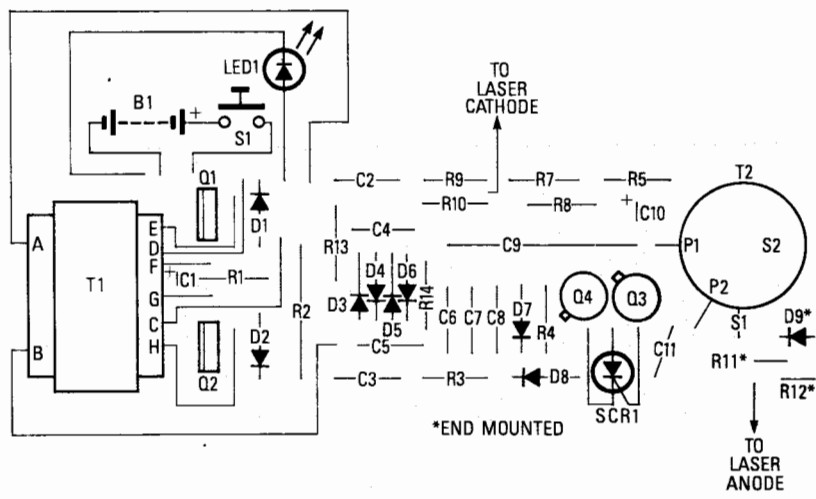

FIG. 5—IF YOU CHOOSE to use the PC board provided in our PC Service section, use this parts-placement diagram.
in materials, simplifying and improving quality control procedures in critical applications. Lasers are also used in industry for non-contact monitoring of a wide variety of systems. See Fig. 5.
**FIG. 5—LASERS HAVE many applications in industry. Here's a device that uses a laser to monitor the performance of an ultrasonic wire bonder, which is used in electronics production.**
cuit that require special attention are the switching transistors, Q1 and Q2. The maximum current draw from the batteries is about 750 mA, so those transistors will be handling a lot of juice and getting hot. The PC-board layout shown in Fig. 5 is designed so that the transistors can be placed in such a way that their tabs can be stuck against the laminations of T1. If you are using perforated construction board, be sure that your layout allows for that, too. Use some heat-sink compound to get good thermal contact, and using small